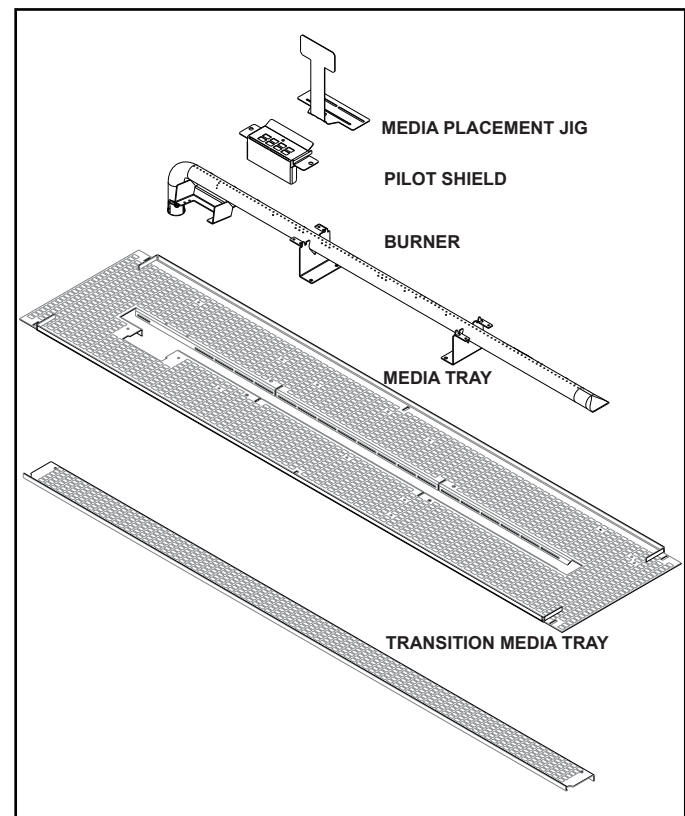

Figure 11.2 Media Tray Components
1. The included media placement jig, shown in Figure 11.2, MUST be used any time media are placed on the burner to ensure that none end up in the burner lighting area. Verify that the media placement jig is correctly installed in place in the appliance. See Figure 11.2.